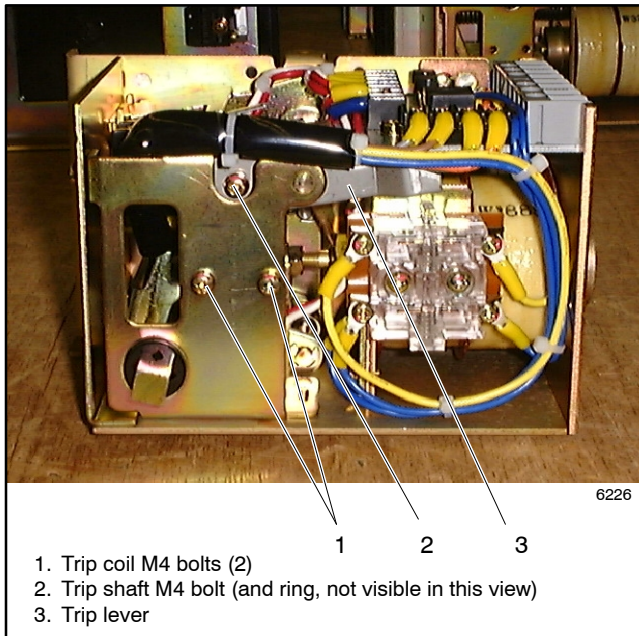

Figure 8-24 Trip Coil and Trip Shaft Bolts
3. Remove two M4 bolts that secure the trip coil. See Figure 8-24.